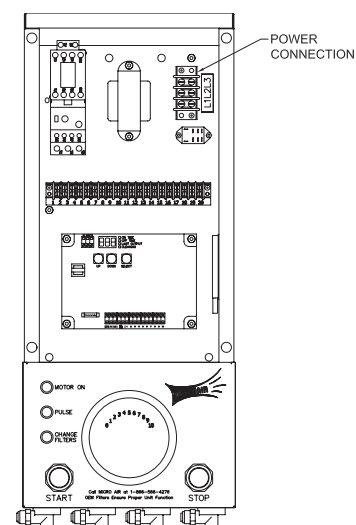

FIGURE 4
- Make connections from your supply power to terminal L1, L2, and L3. Wire size should be rated for motor horsepower load needed for your application (see Figure 4).
2. When the enclosure is mounted, make connection from your supply power to terminals L1, L2, and L3. Wire size should be rated for motor horsepower load needed for your application (see Figure 4).